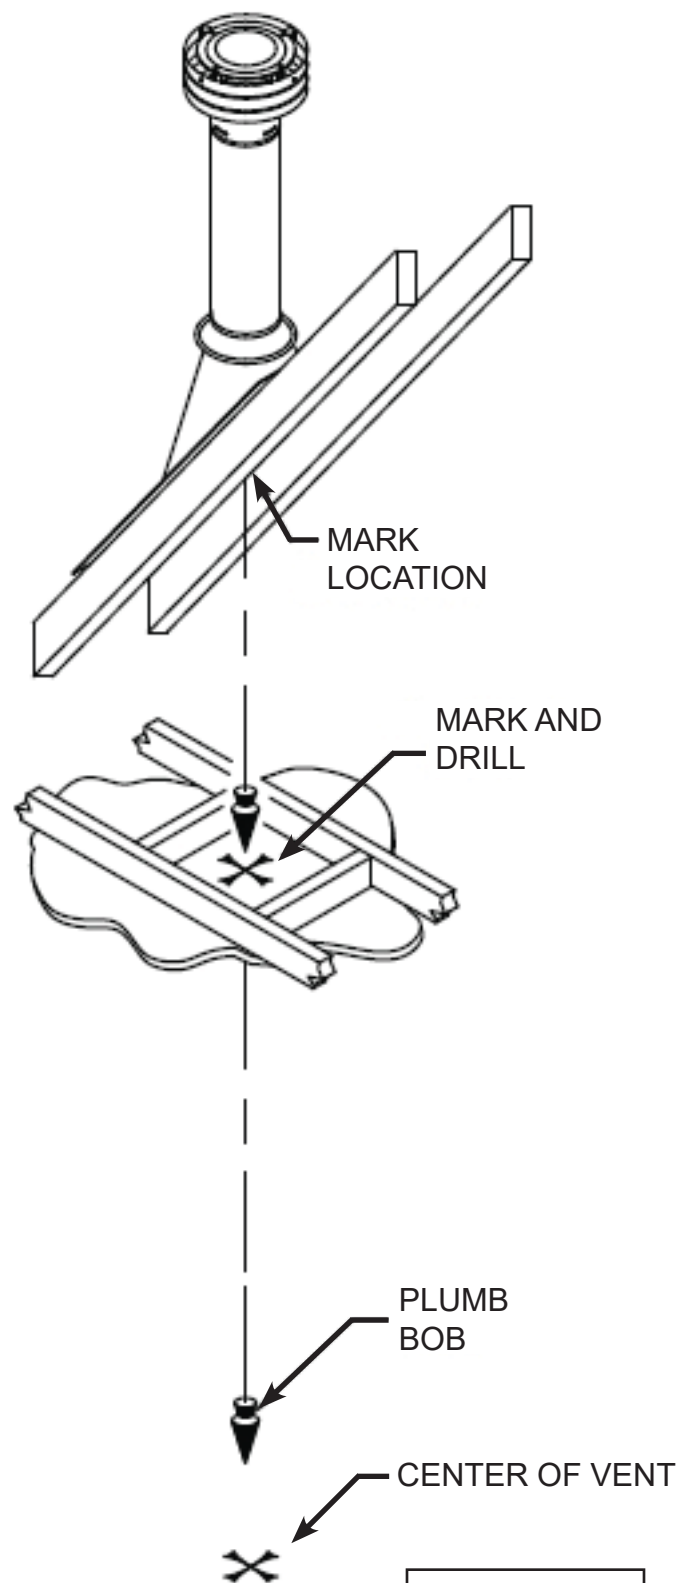

FIGURE 13
**Step 2.** Set the Zircon in the desired location. Drop a plumb bob down from the ceiling to the position of the appliance flue exit, and mark the location where the vent will penetrate the ceiling. Drill a small hole at this point. Next, drop a plumb bob from the roof to the hole previously drilled in the ceiling, and mark the spot where the vent will penetrate the roof (Fig. 13). Determine if ceiling